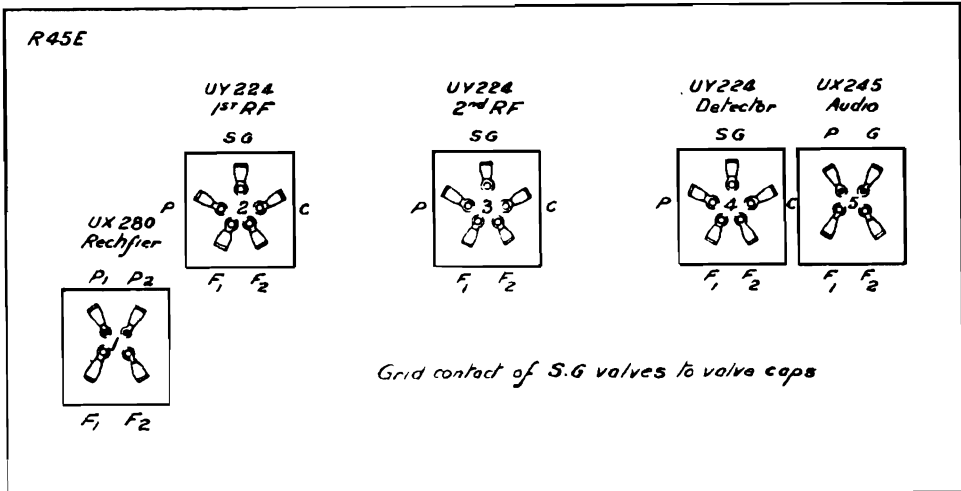

Fig. 6. Valve Sequence and Position of Valve Contacts, Radiola 45E.
2. **VOLTAGE TEST.** After removing the chassis from the cabinet, make the following voltage tests across the valve sockets with all the valves in position and with the loudspeaker connected and the chassis turned upside down. Fig. 6 shows the relative position of the valve contacts, the valves being shown in their correct sequence looking down on the upturned chassis from the back of the Radiola.